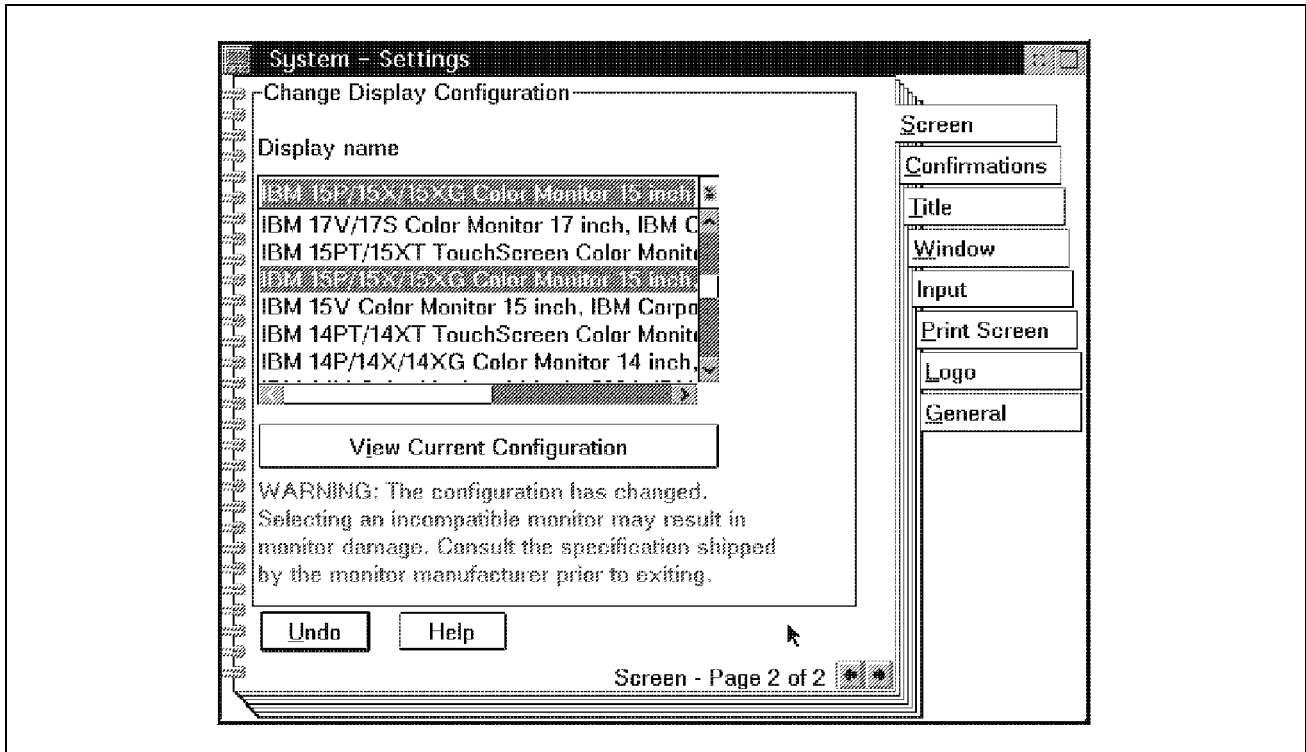

Figure 16. System Setup: Selecting Display Type--Warning Message
7. After you have selected a display type, you will get a warning message as shown in Figure 16 on page 57. This gives you the opportunity to